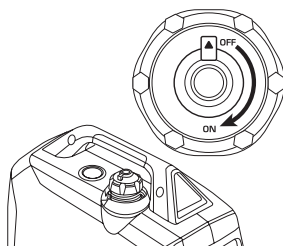

Fig. 2
8. To start KS 2100iG S, KS 3100iG S models, turn the Multifunctional engine switch to the "START" position (fig. 2). Pull the handle of manual starter until a slight resistance is felt, then pull it relatively sharply. Slowly return the handle manual starter by hand, do not release it abruptly. Turn the Multifunctional engine switch to the "RUN" position (fig. 2).
3. Turn the Multifunctional engineswitch to the "START" position (fig. 2).